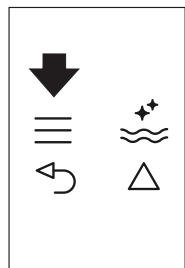
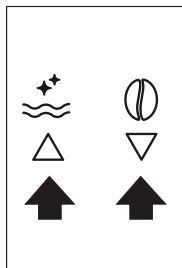

Fig. 22
Fig. 9
- ▶ Press the **Menu** icon (B2) to enter the menu (Fig. 22) or press the icons **Up** (B7) and **Down** (B8) (Fig. 9) until "PROGRAM HOT WATER" is displayed.